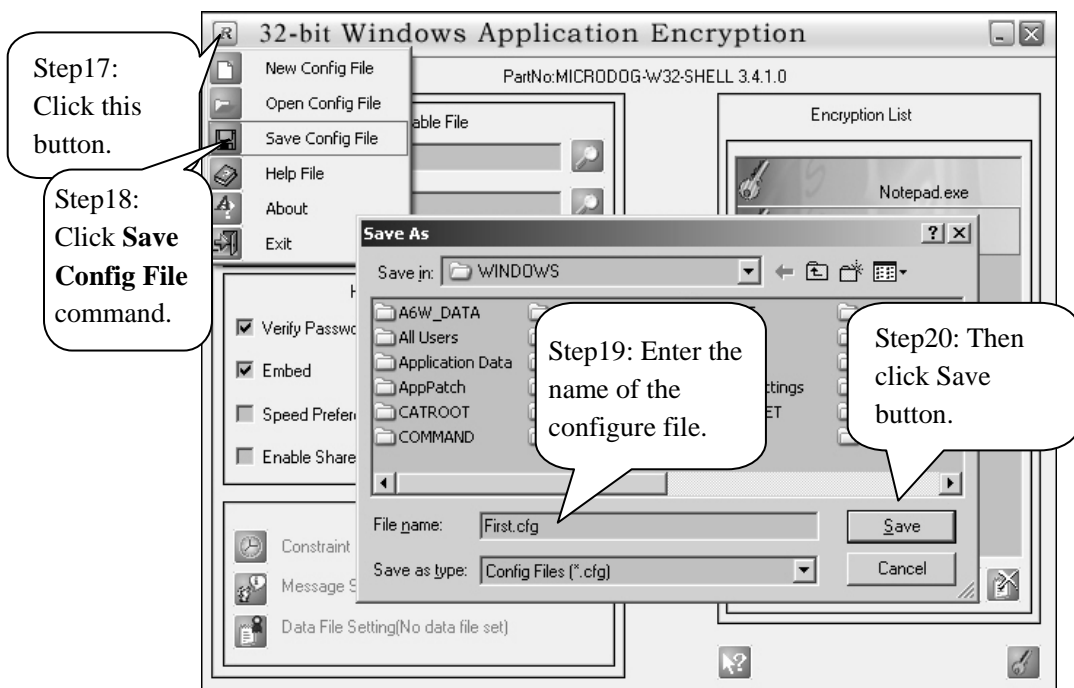

Figure 4-11
9. Follow the Step 17-19 on the Figure 4-11 to save all the settings of the encryption items in the Encryptions List to be a configure file. You can use the configure file again by opening it.